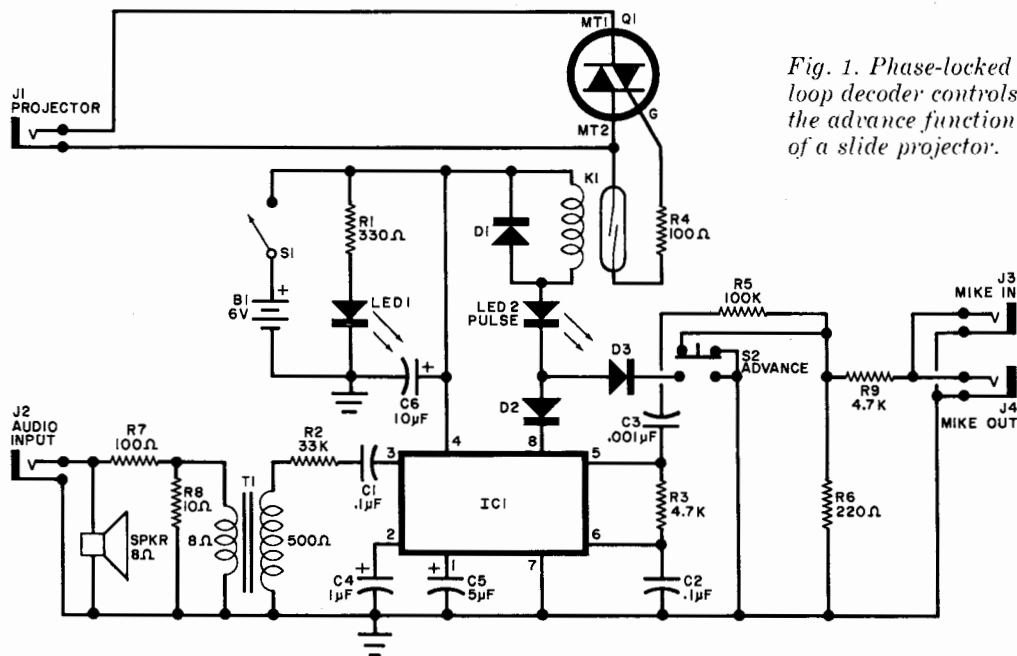

Fig. 1. Phase-locked loop decoder controls the advance function of a slide projector.
**About the Circuit.** As shown in Fig. 1, IC1, a 567 tone decoder phase-locked loop, is the heart of the Slide Syncer. This eight-pin DIP contains a